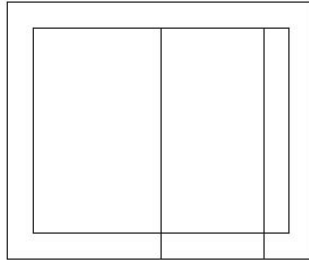

FIGURE 2.19: The lines are extended to the boundary edge.
3. Pick the two new vertical lines created by the Offset command. Be sure to place the pickbox somewhere on the lower halves of these lines, or AutoCAD will ignore your picks. The lines are extended to the boundary edge line. Press \downarrow to end the Extend command (see Figure 2.19).